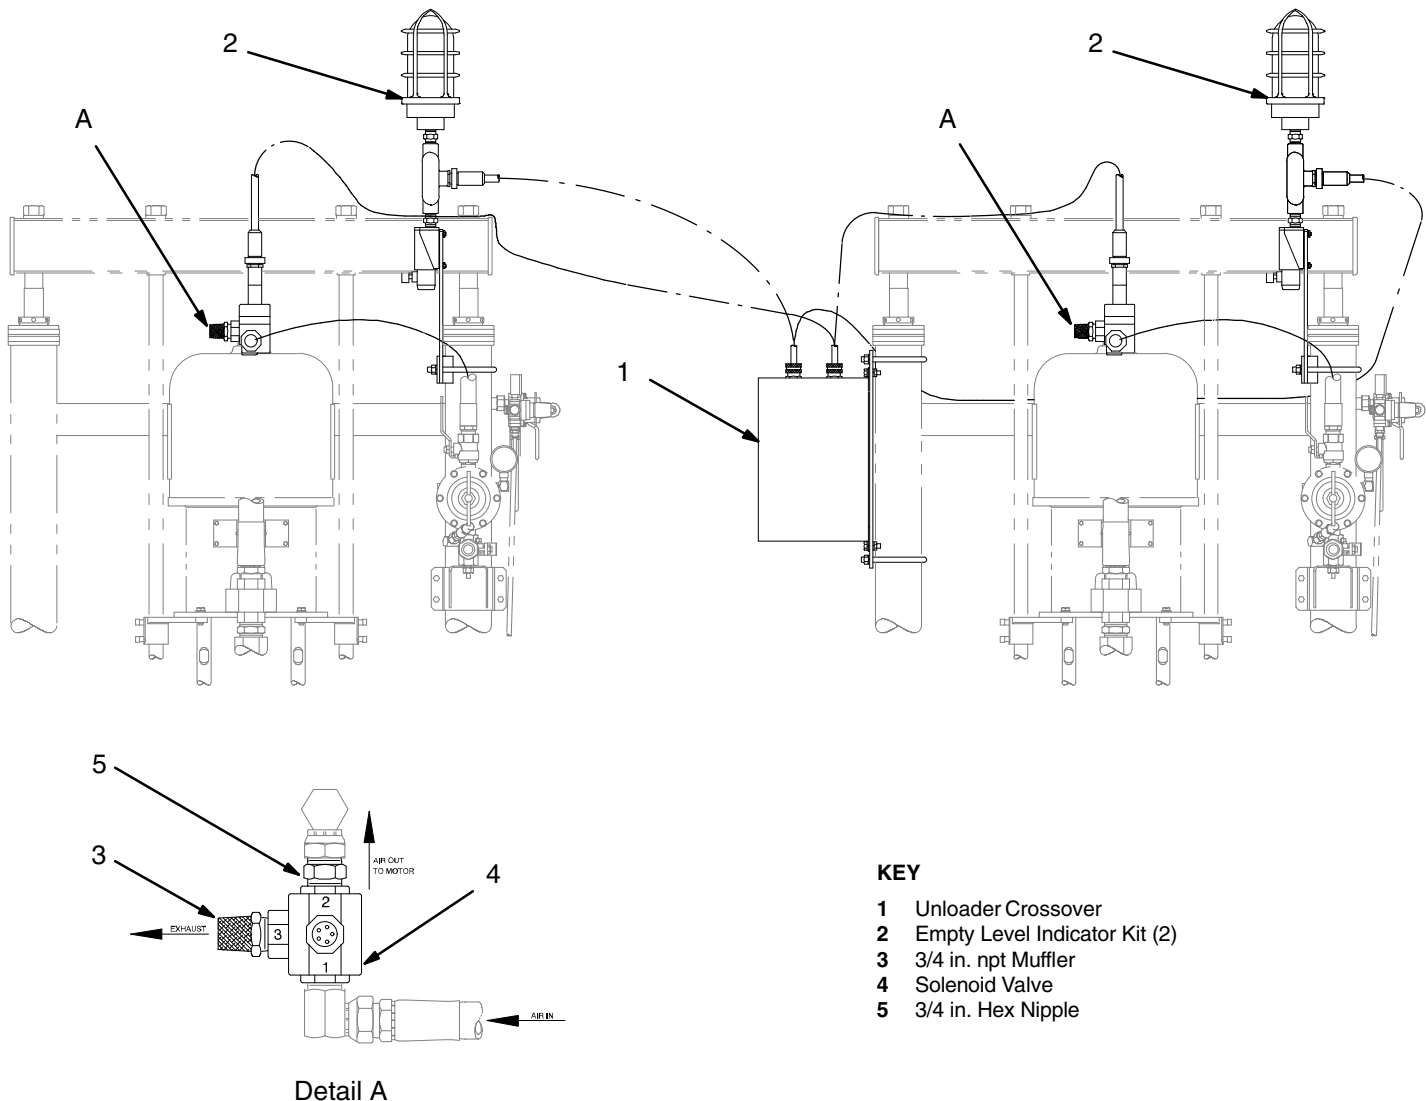

Fig. 4
The electrical crossover is setup as shown in Fig. 4.
The position of the empty level indicator kit (2) on the ram determines when the ram air motor is turned on and off. During operation, this position can be adjusted as desired. See Fig. 4.